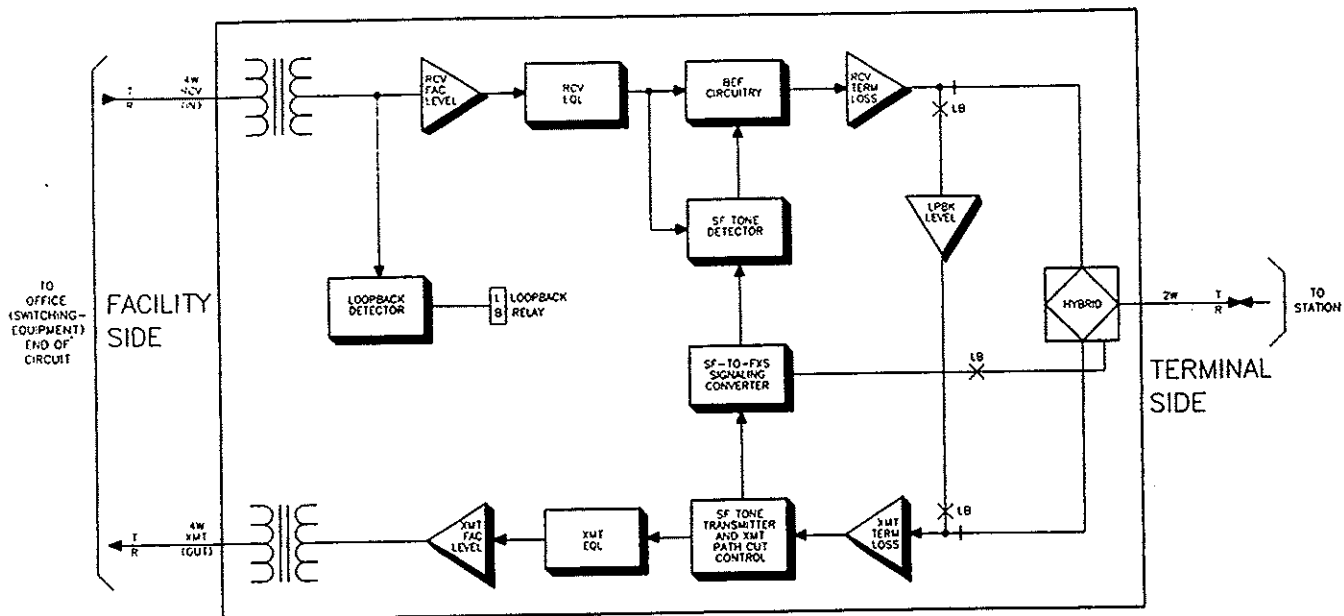

figure 7. Loopback route through 6123A
2.28 **Overview.** Integral facility-side transmission and signaling loopback circuitry in the 6123A allows local or remote testing of both the module and the facility. This loopback circuitry can be activated either manually (locally) or via 2713Hz tone (remote two-tone loopback). A prescription loopback-level-control circuit introduces from 0 to 23dB of loss or from 0 to 24dB of gain into the loopback path in switch-selectable 1dB increments to provide true equal-level transmission loopback. Figure 7 shows, in simplified form, the transmission and signaling loopback paths through the module.